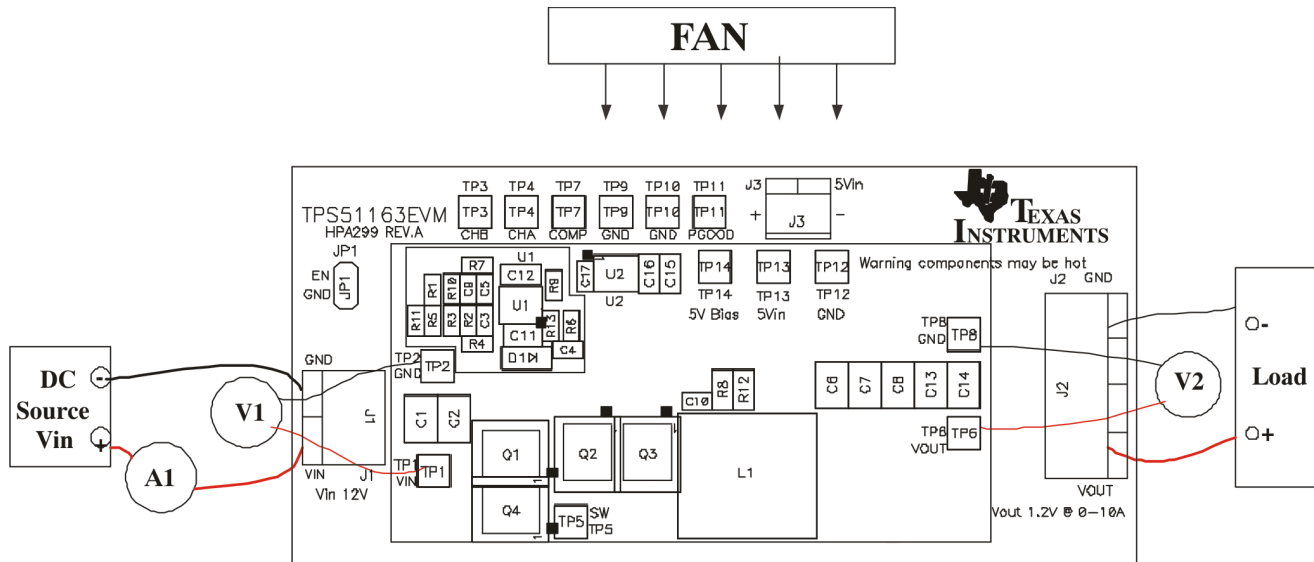

Figure 3. TPS51163EVM Recommended Test Set Up
The input voltage source V_{IN} should be a variable DC source between 0 V and 14 V, capable of supplying 10 Adc. Connect V_{IN} to J1 as shown in Figure 3.
A voltmeter with a range between 0 V and 14 V should be used to measure V_{IN} at TP1(V_{IN}) and TP2(GND). A voltmeter with a range between 0 V and 5 V for V_{OUT} measurement at TP6(V_{OUT}) and TP8(GND). A current meter with a range between 0 A and 10 A (A1) as shown in Figure 3 is used for input current measurements.
Figure 3 is the recommended test set up to evaluate the TPS51163EVM. Working at an ESD workstation, make sure that any wrist straps, bootstraps or mats are connected referencing the user to earth ground before power is applied to the EVM.
1. Prior to connecting the DC input source V_{IN} , it is advisable to limit the source current from V_{IN} to 10 A maximum. Make sure V_{IN} is initially set to 0 V and connected as shown in Figure 3.
Place a fan as shown in Figure 3 and turn on, making sure air is flowing across the EVM.
1. Set up EVM as described in the *Line/Load and Regulation and Efficiency Measurement Procedure* section and Figure 3.